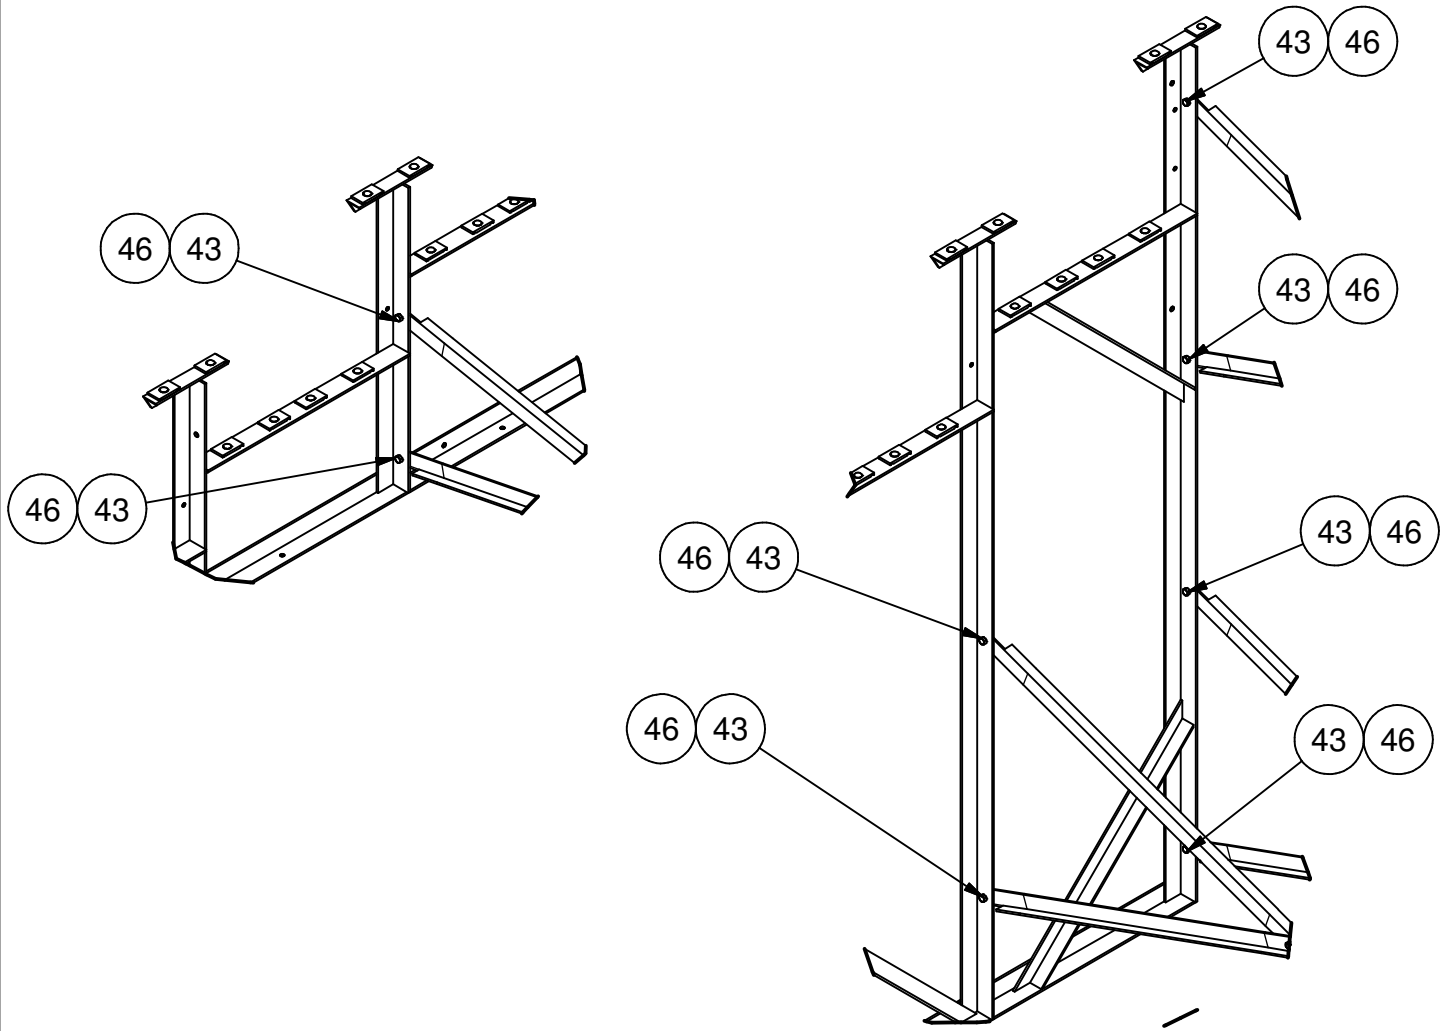

Figure 4
3. Lay out the Frame weldments approximately 6' apart. Refer to figure 3 for proper frame spacing. Install the brace sub-assemblies from step 2 using the 3/8" x 1" hex bolts and 3/8" whizlock nuts as shown in Figure 4. Cross braces are connected to the frames at verticals 3,4,6,9,and 10. Refer to figure 3 for item number and page 2 for brace angle length. NOTE: Cross braces are located in the end bays. Straight spacer braces are located in the center bay 2 at row 3 and row 10 only. After all braces are installed, square the frame and make sure the front of the frame is in line.